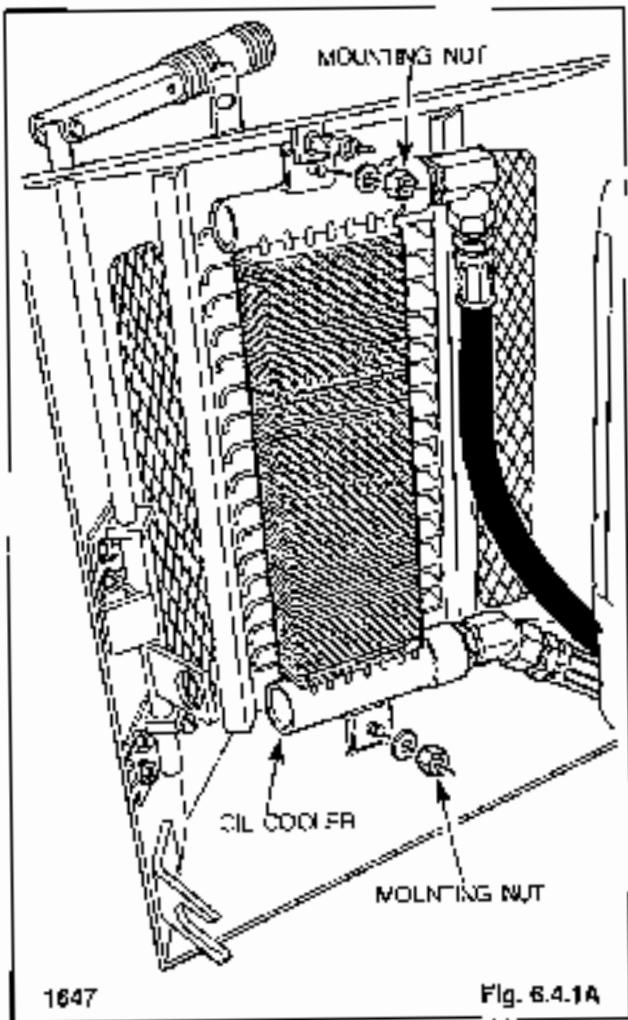

Fig. 6.4.1A
1. Remove the two nuts securing the oil cooler to the rear door (Fig. 6.4.1A). Carefully lay the oil cooler with the hoses attached on the ground.
2. Install the hydraulic oil cooler on the rear door (Fig. 6.4.1A). Check that the hoses running to the oil cooler are not kinked or interfere when the door is opened and closed.